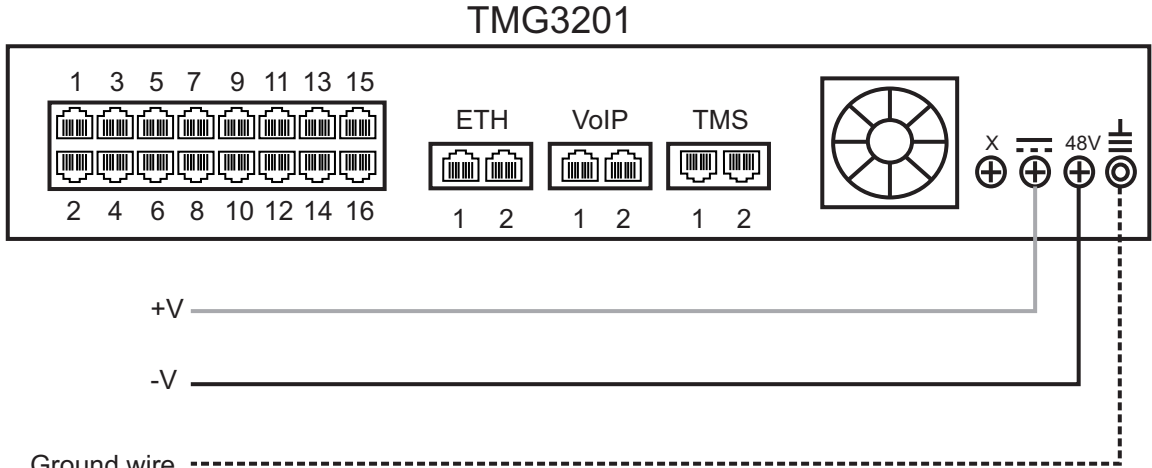

Figure 2.9 TMG3201 DC wiring diagram
1. Connect a ground wire to the ground lug located at the rear of the TMG3201, as shown in figure 2.9 on page 19.